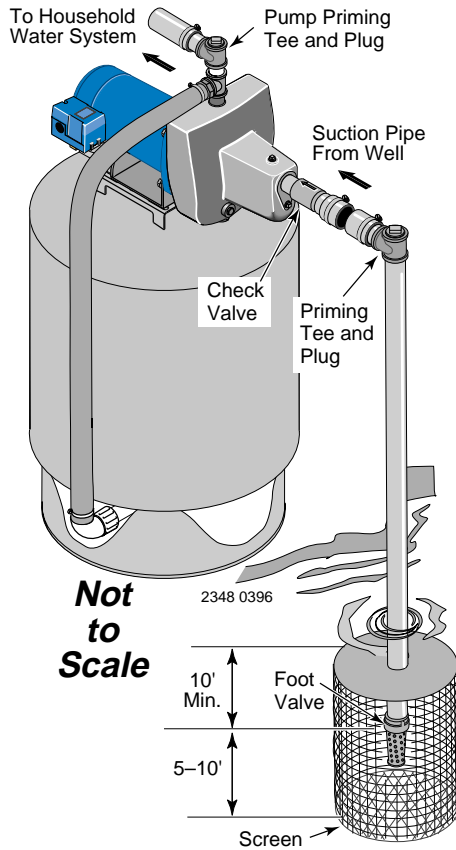

Figure 3: Surface Water Installation
INSTALLATION FOR SURFACE WATER (Figure 3)
- Step 2. Assemble a foot valve and suction pipe (see Figure 3). Make sure that the foot valve works freely. Use teflon tape or a teflon-based pipe joint compound on threaded pipe joints. Protect the foot valve assembly from fish, trash, etc, by installing a screen around it (see Figure 3).
- Step 4. Install a priming tee, priming plug, and suction pipe to the pump (see Figure 3). Support the pipe so that there are no dips or sags in the pipe, so it doesn't strain the pump body, and so that it slopes slightly upward from the well to the pump (high spots can cause air pockets which can air lock the pump). Seal the suction pipe joints with teflon tape or a teflon based pipe joint compound. Joints must be air- and water-tight. *If the suction pipe can suck air, the pump cannot pull water from the well.*